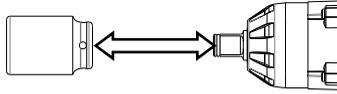

Fig. 3
1. Insert a socket into the anvil. (see Fig. 3)
1. Pull out the socket from the anvil directly. (see Fig. 3)